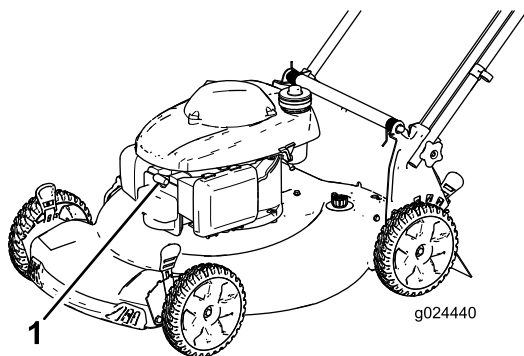

Figure 20
2. Disconnect the spark plug wire from the spark plug (Figure 20) before performing any maintenance procedure.